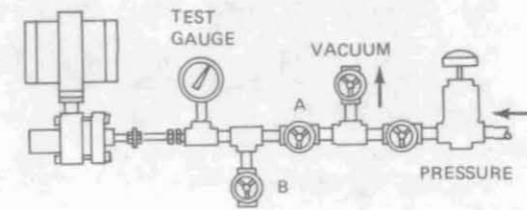

Figure 13
1. Set up applicable calibrating equipment as shown in Figures 13 through 16.